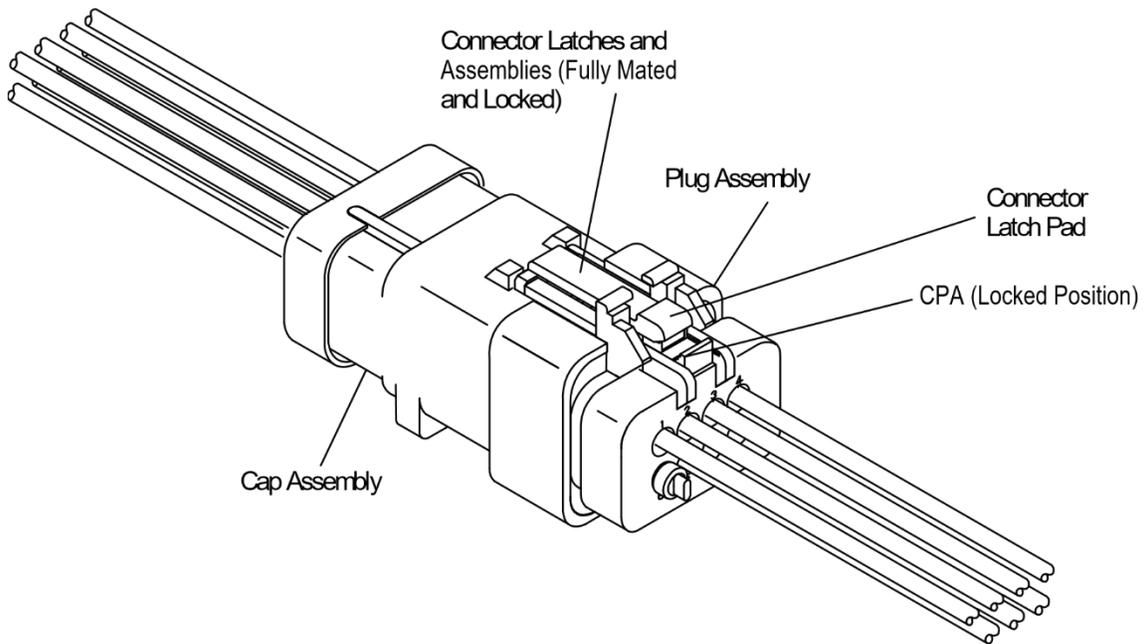

Figure 10
7. By pushing the CPA toward the plug housing, it can be slid into the locked position in which it slides under the connector latch pad. See Figure 10.